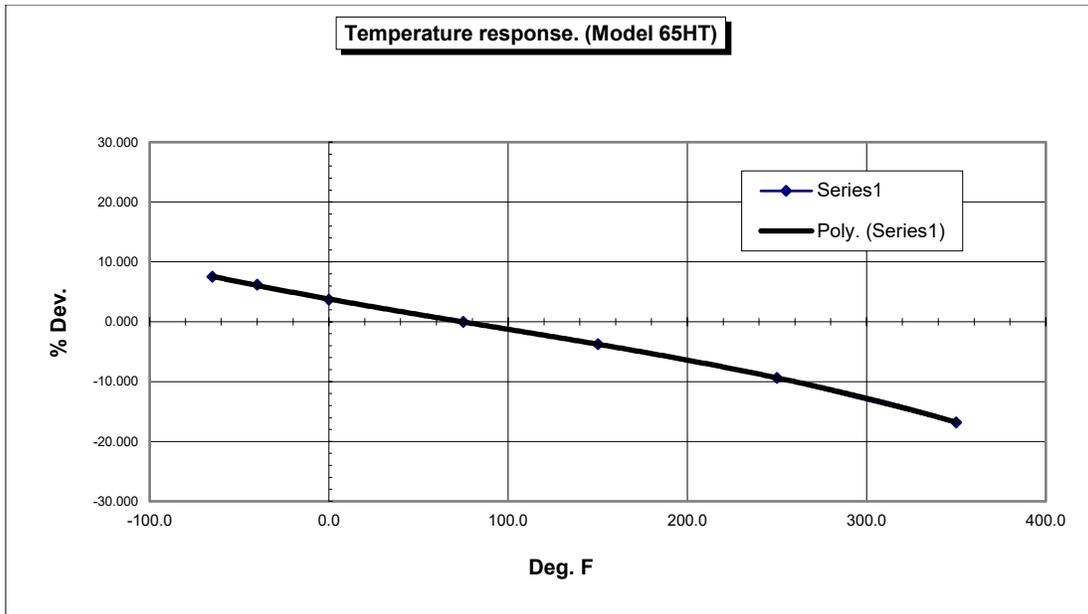

FIGURE 3
2.4	TEMPERATURE RESPONSE (refer to typical curve, Figure 3)